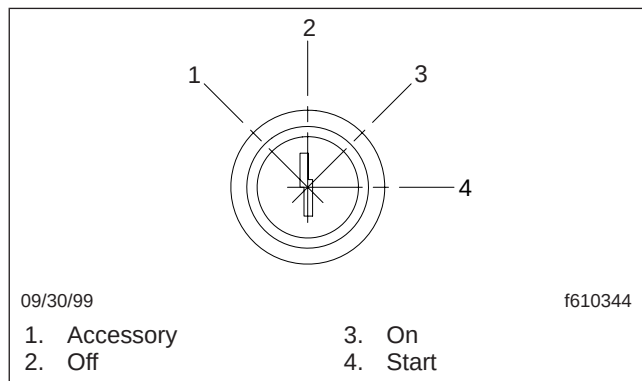

Fig. 7.1, Ignition Switch Positions
1. Turn the ignition switch to the on position (Fig. 7.1). All the electronic gauges on the instrument and control panel complete a full sweep of their dials, the warning and indicator lights light up, and the buzzer sounds for three seconds.
1. Turn the ignition switch to the on position (**Fig. 7.1**). The CHECK ENGINE indicator comes on for five seconds. The INTAKE HEATER indicator comes on for a minimum of two seconds, regardless of coolant temperature.
1. Turn the ignition switch to the on position (Fig. 7.1). The CHECK ENGINE indicator will come on. The
The intake air preheater is activated by turning the ignition switch to the on position (**Fig. 7.1**). If the engine is at normal temperature, the INTAKE HEATER indicator goes out after two seconds.
Turn the ignition switch to the on position (**Fig. 7.1**). If the engine is at normal temperature, the INTAKE HEATER indicator goes out after two seconds.